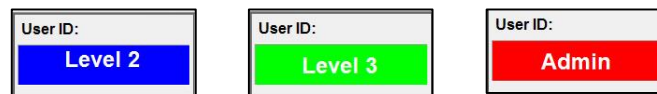

Figure 11. User ID color reflects access level.
- c. After successful login, a User ID box will appear in the screen's upper left corner (Figure 11). Color indicates the user's level of access: